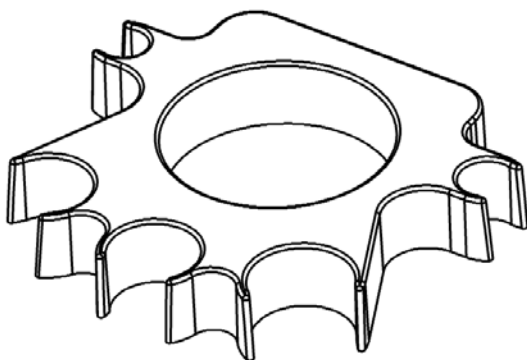

Fig. 6.
1. Bio-Scale™ Mini cartridges **CAN** be installed in the same holder that supports the conductivity flow cell (shown in Figure 6).